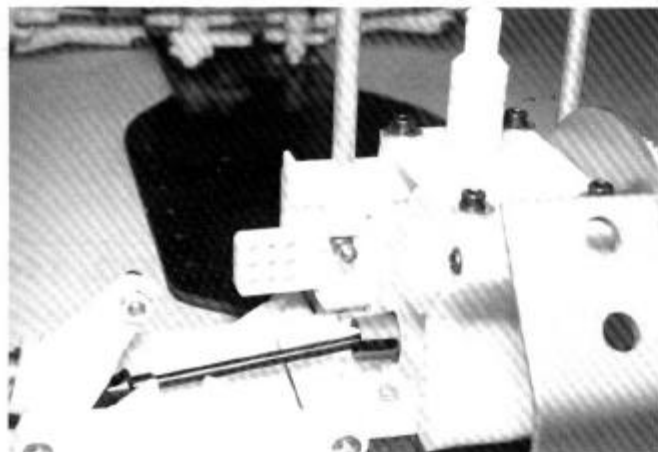
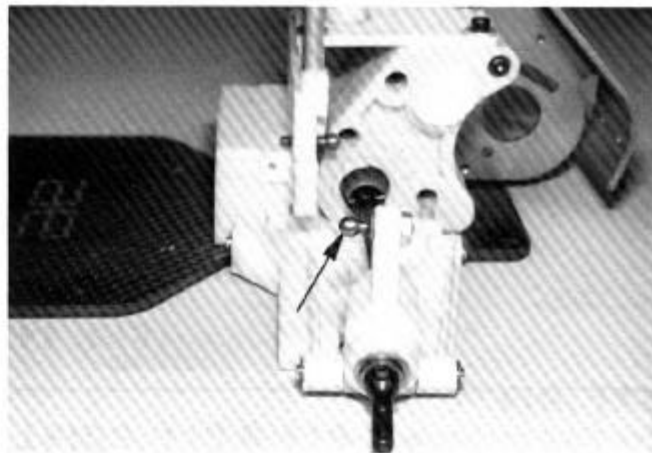

**FIG. 105**
**FIG. 106**
**FIG. 106**—The big arrow is pointing to the roll pin which must be centered in the axle or you will have trouble getting your wheels on. Now attach the hub carrier to the A-arm by the pin #6381. Put on the two E-clips. Do the right hand side.
**IMPORTANT:** now refer back to Fig. 106 where the dogbone goes into the output drive of the transmission. We must make sure the dogbone is not **TOO LOOSE** or **TOO TIGHT** here. If it's too loose the dogbone will drop out of the outdrive when the wheel drops all the way down. If it's too tight it will bottom out and bind when the wheel is all the way to the top of its travel. So raise the arm completely and lower the arm completely and check the dogbone. If it must be adjusted then you will have to re-locate the washers you installed in Fig. 105 to the inside, with just enough washers to make the fit correct.